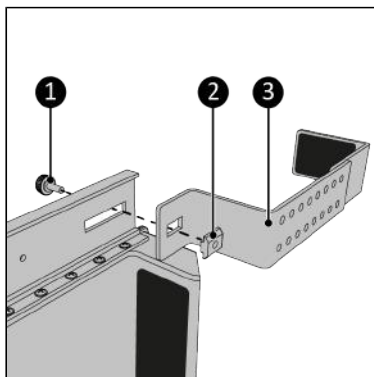

Figure 97.
6. Screw the bracket (Figure 97, pos. 3) to the main rail in the front position using the knob screw (Figure 97, pos. 1). Make sure you connect the knob screw to the slide nut (Figure 97, pos. 2).